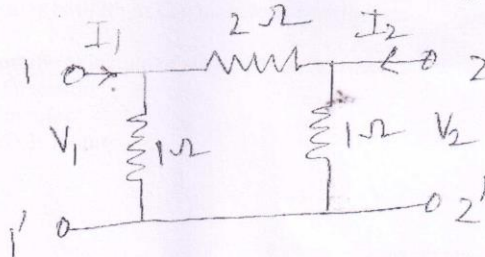

figure 2
- b) Find the ABCD parameters of the network shown below in figure 2. [15]